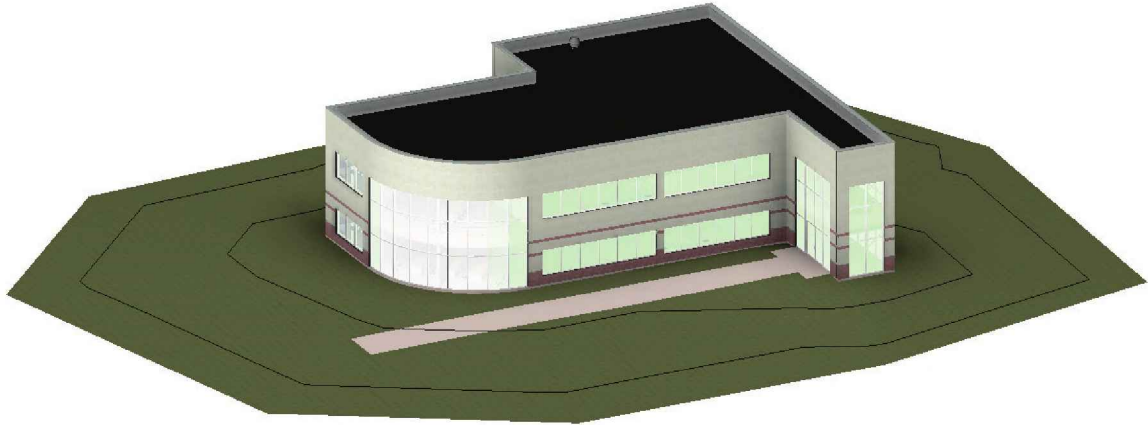

FIGURE 15-1.10 3D view with driveway and sidewalk added
16. Switch to **3D** view to see your sidewalk (Figure 15-1.10). Notice the 2D lines sketched in the **Site Plan** view have been projected down onto the surface of the 3D site object!